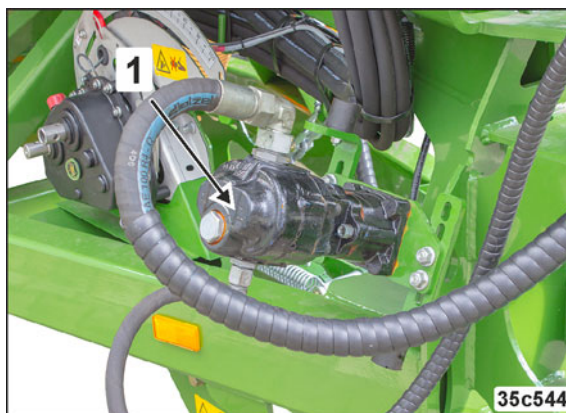

Fig. 164
5. Insert the hydraulic pump (Fig. 164/1) on the transport bracket.